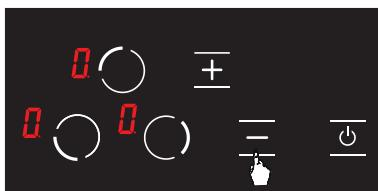

Figure 26
3. Press the **-** key again. (see Fig. 26) This shall be performed right after the 2nd step. Child lock is deactivated permanently. In other words, child lock shall continue to be deactivated even if the unit is turned off and on again.